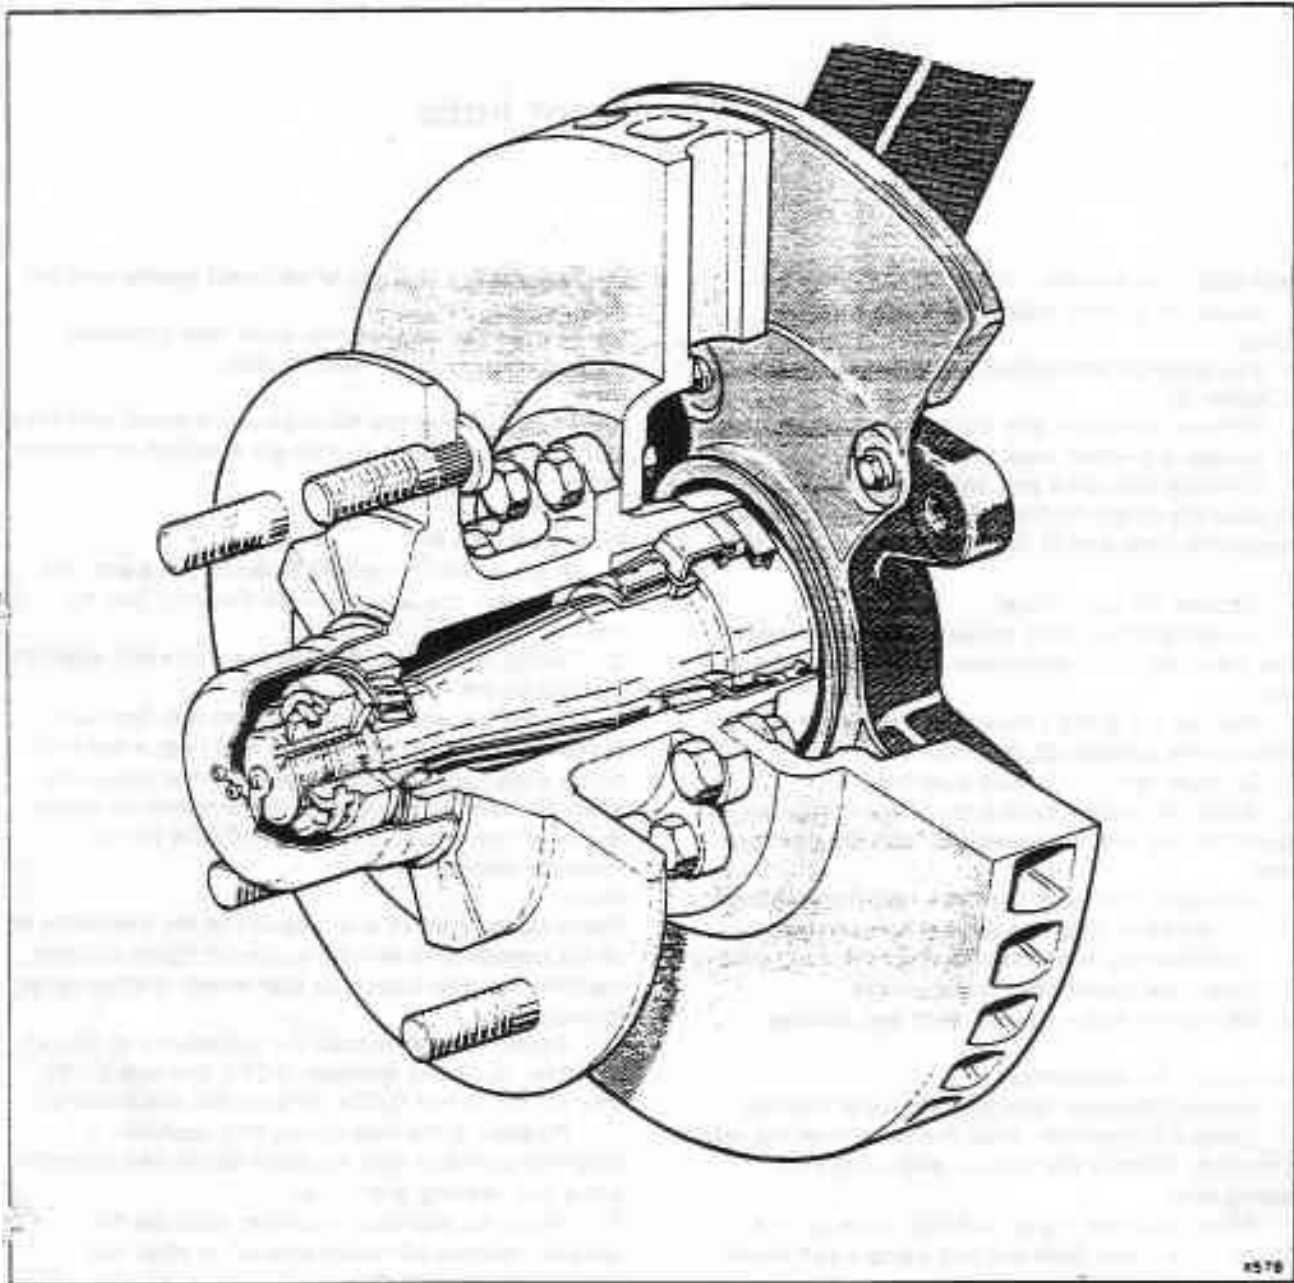

Fig. H5-1 Front hub assembly
Front hub - To assemble (see fig. H5-1)
1. Fit the internally tapered distance piece onto the stub axle with the taper towards the yoke (see fig. H5-1).